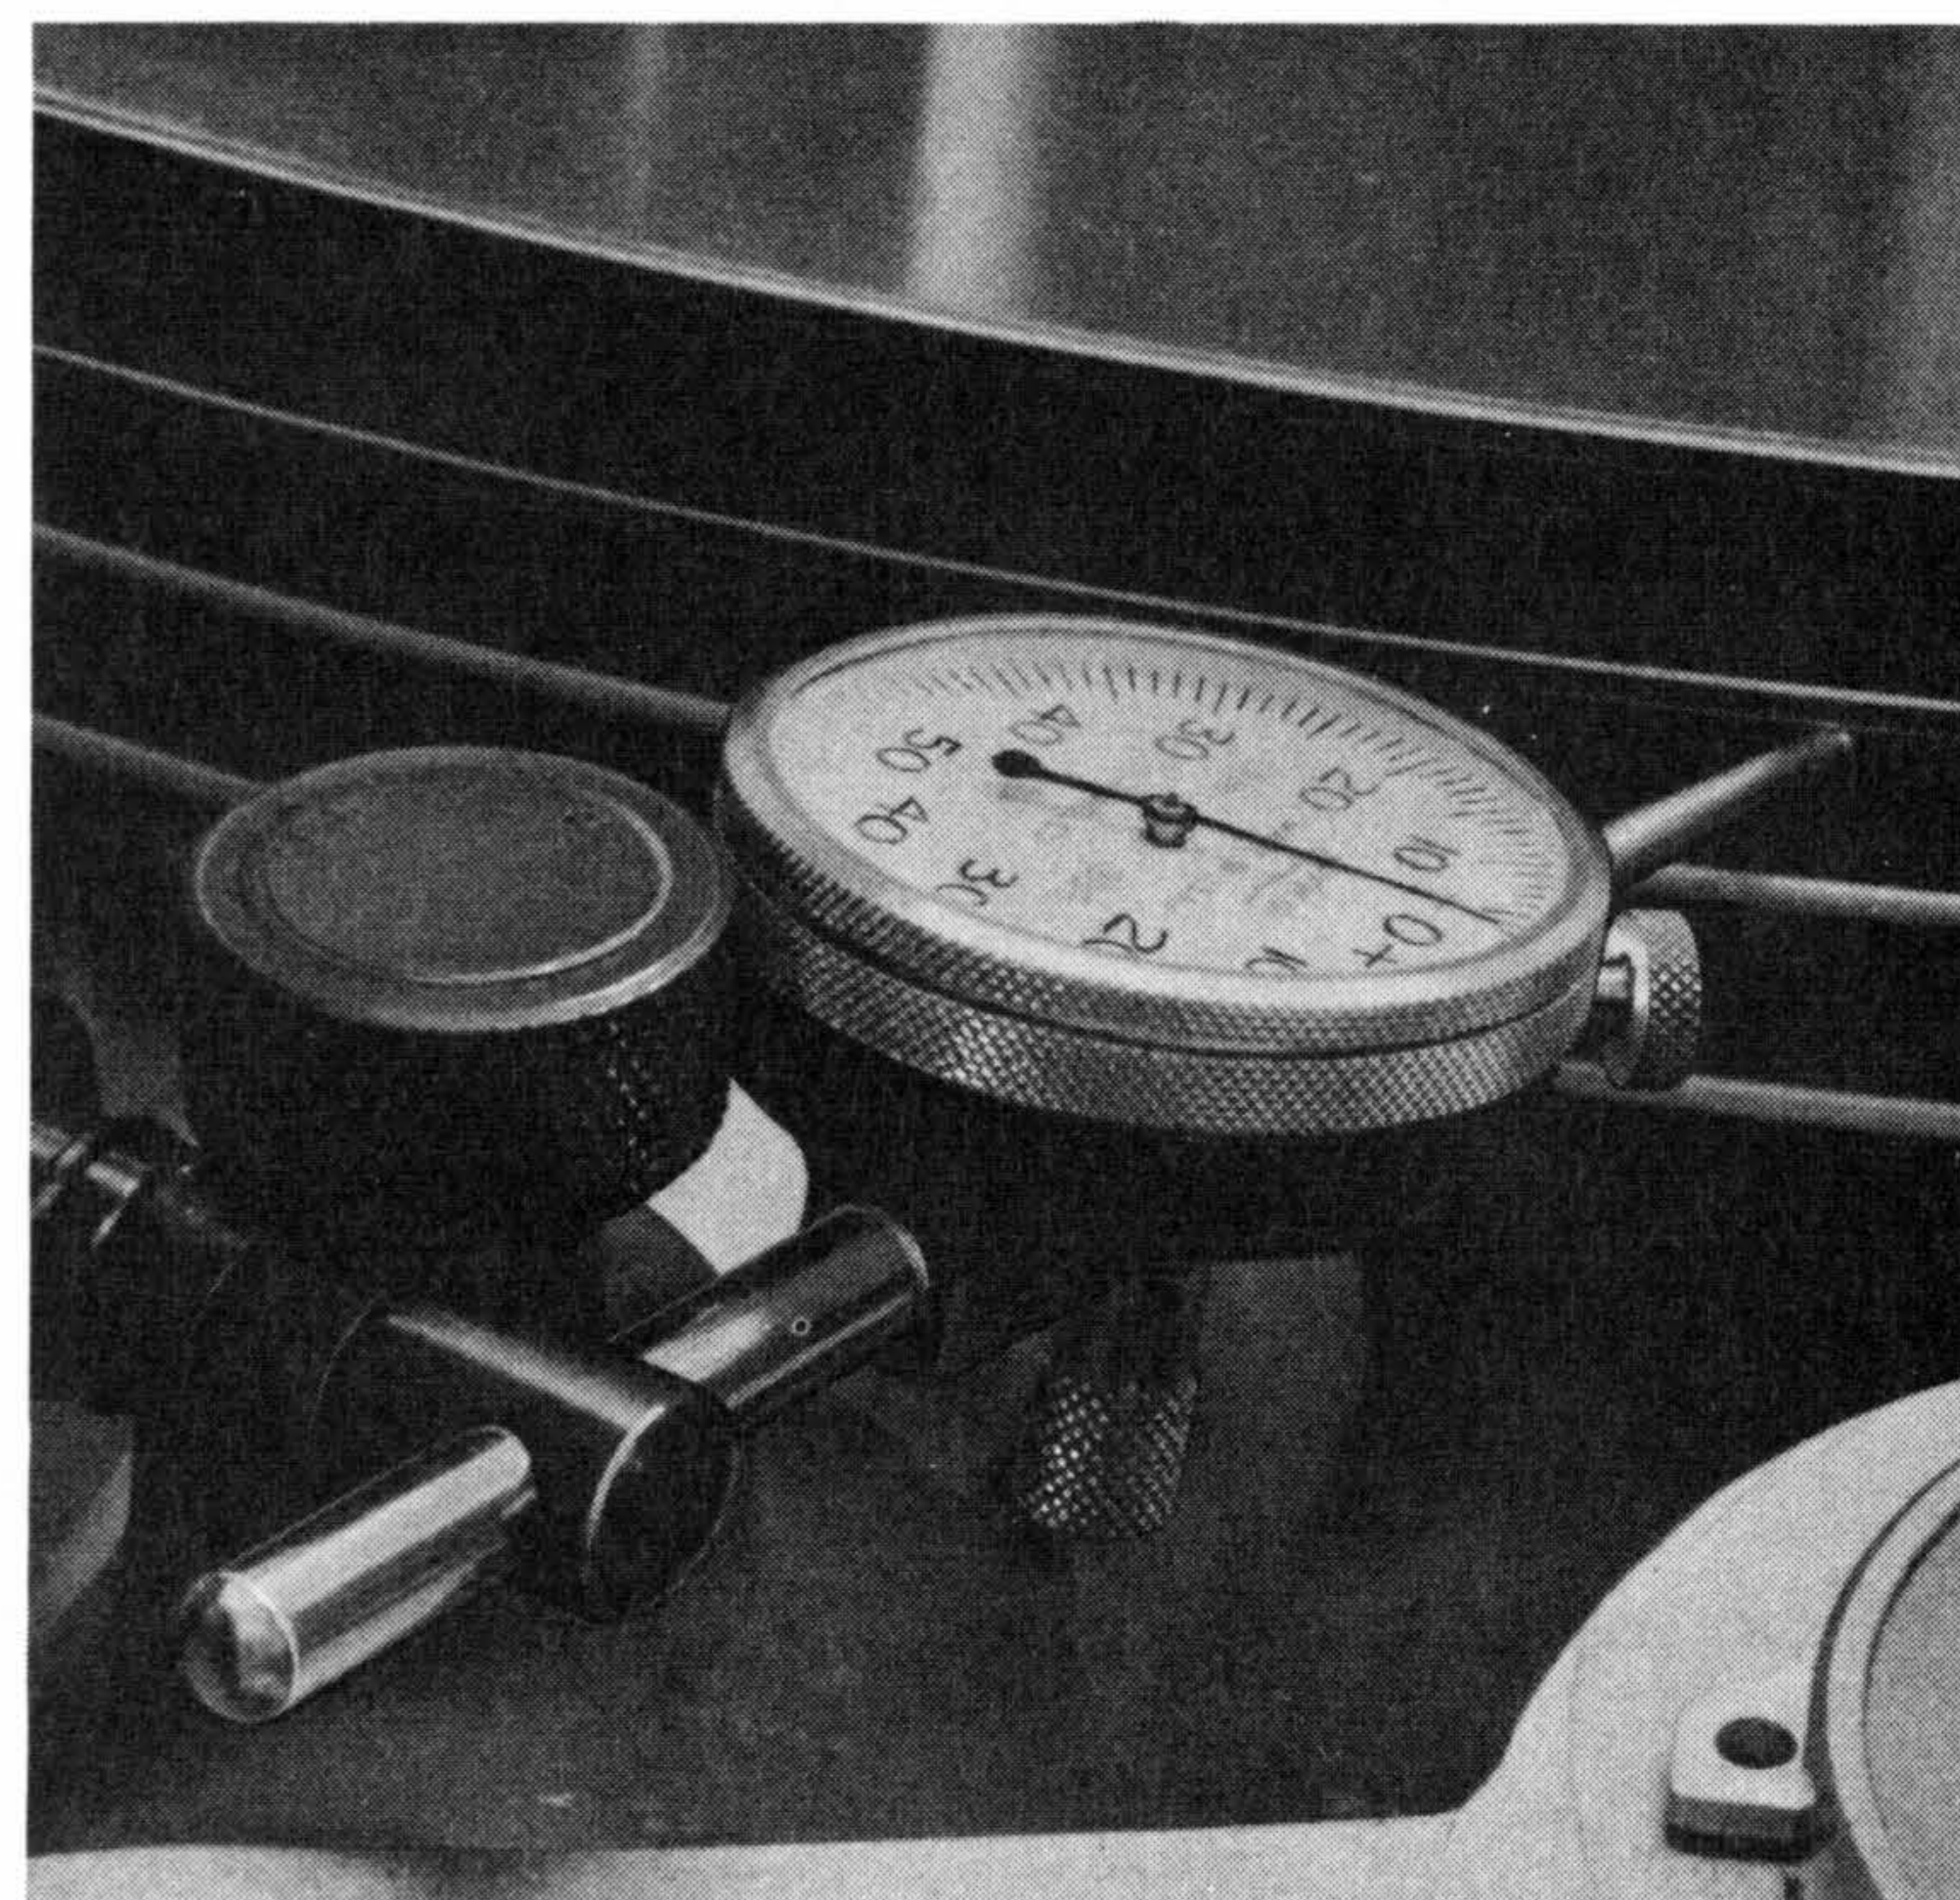

Figure 4-14. Dial Indicator Mounting
6. Check disk runout on every fifth disk with Dial Indicator from disk-aligning kit. Measure runout at $3/16$ -inch $\pm 1/16$ -inch from the edge of disk while turning the array manually through a full revolution. Measure runout from the bottom surface of the disk (Figure 4-14). Runout should not exceed 0.020-inch. If a disk exceeds a total indicator reading of 0.020-inch one of the lower disks or spacers may not be flat, possibly because a chip lies between the surfaces. If such a disk is found, disks beneath it should be checked to determine at which disk runout becomes excessive. The disks must then be unstacked to locate the excessive runout. If only one disk has excessive runout, then the disk runout log should be checked to see if the disk had much runout initially. If it did not, then the disks must be unstacked to locate the problem.